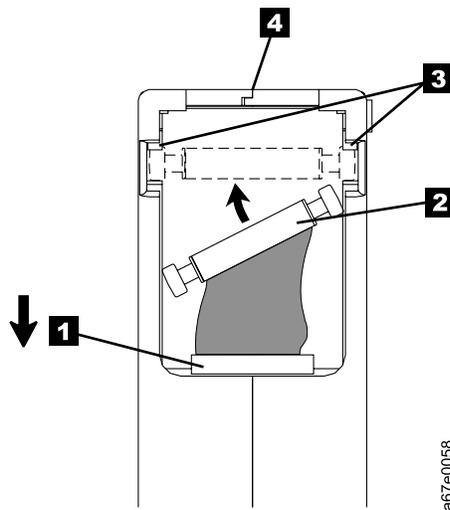

Figure A-5. Placing the dislodged leader pin into the correct position. The cartridge door is open to show the leader pin.
- Slide open the cartridge door ( **1** in Figure A-5) and locate the leader pin ( **2** ) (you may need to shake the cartridge gently to roll the pin toward the door).